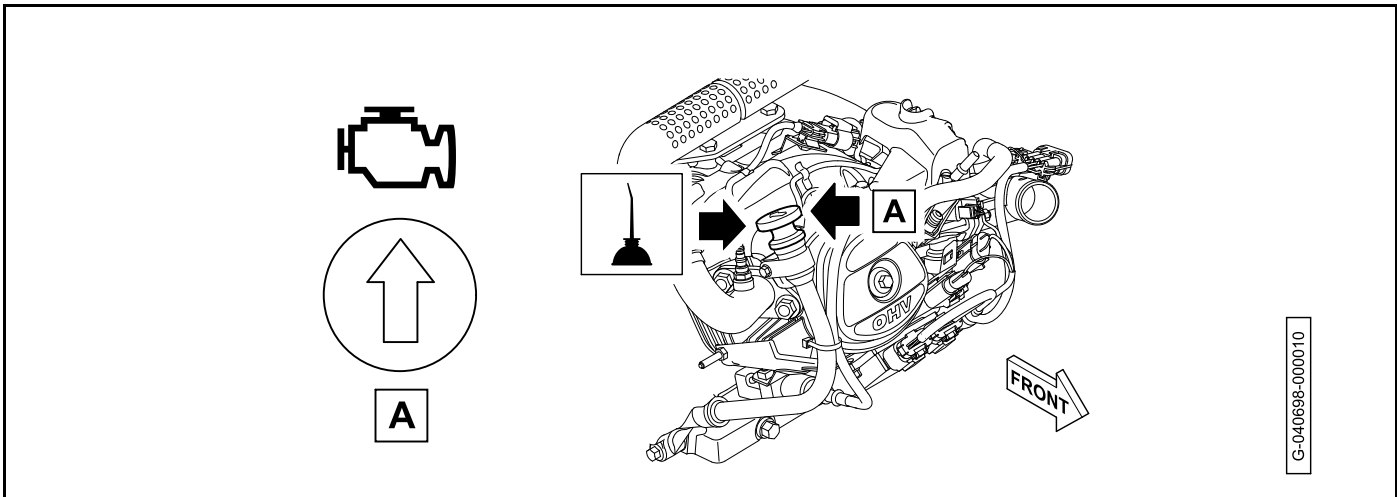

Figure 10-11 Engine Oil Fill Location
9. Add 39 fl-oz (1.1 l) of recommended engine oil (**Figure 10-11, Page 10-16**).